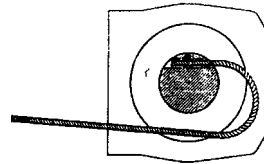

Figure 17
**Always replace damaged wire rope with manufacturer's identical replacement part** (see Replacement Parts list). Pass attaching end of wire rope through the fairlead (if equipped) and attach it to the drum. When inserting the wire rope into the drum, insert it into the correct end of the hole provided (Figure 17). Tighten the set screw securely.